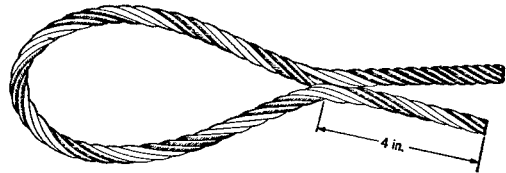

Fig. 7
**5.08** Tail strands of 4 inches or more are required to develop the full strength of the rope. Measure down 4 inches from the point where the tail strands are joined and cut off the excess as shown in Fig. 7.